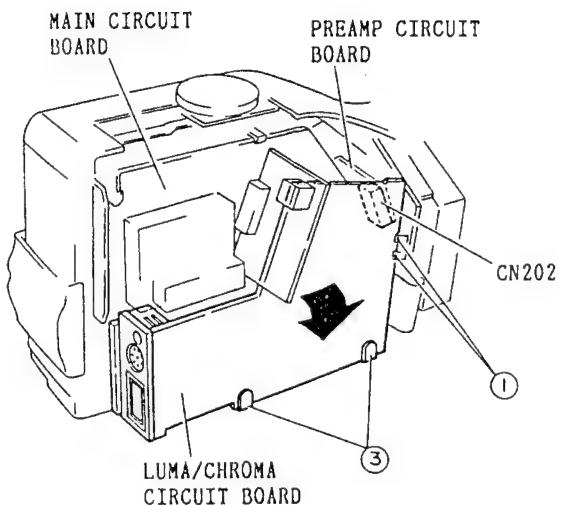

Fig. 2-20
10. Open the luma/chroma circuit board. (See Fig. 2-20)
- Release two (2) tabs, and while disconnecting connector CN202 from the preamp circuit board, open the luma/chroma circuit board in the direction of the arrow. (See Fig. 2-20)
- Release two (2) tabs of the circuit board holder and remove the luma/chroma circuit board. (See Fig. 2-20)
1. Open the luma/chroma circuit board. (See Fig. 2-20)
2. Open the luma/chroma circuit board. (See Fig. 2-20)